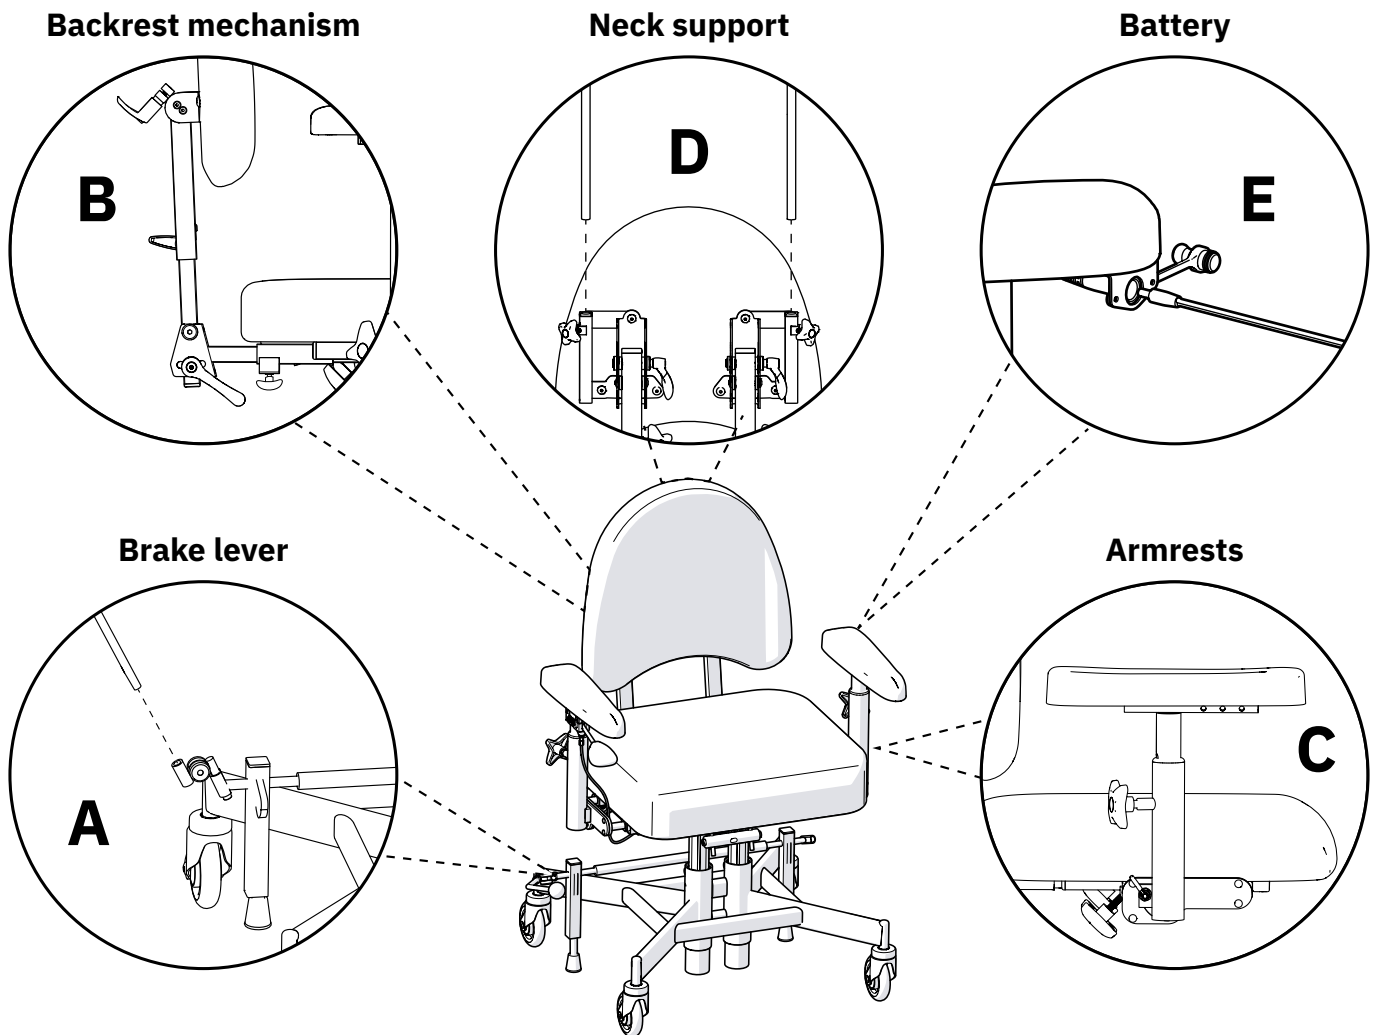

Figure 2.1. Preparations before the device is put into use.
Insert the brake lever into the brake lever bracket (A), see Figure 2.1. The brake lever can be placed on the right or left side.
Place the backrest posts in the backrest mechanism (B) and set the desired height level, see Figure 2.1. Tighten all controls (B).
Loosen the armrest controls (C) and set the desired height and width levels, see Figure 2.1. Tighten all controls (C).
If the device is supplied with a neck support, insert the neck support mechanism into the backrest bracket (D) and set the desired height level, see Figure 2.1. Tighten all controls (D).
Before first use, the battery in electric models must be activated and/or charged. This is done by connecting the battery charger to the device's charging outlet and to a wall outlet (E), see Figure 2.1. The charging outlet can be placed in different places on the device. The most common is that the device comes with the charging outlet mounted at the rear edge of the left armrest.